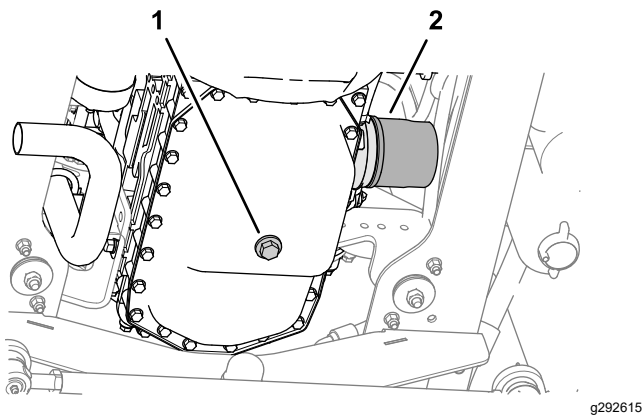

Figure 56
- Remove the drain plug and let the oil flow into a drain pan (Figure 56).